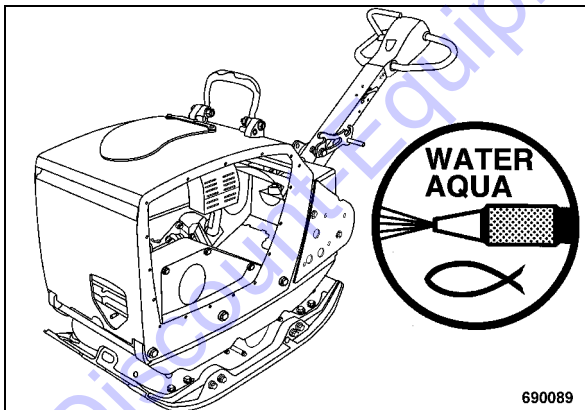

Fig. 39
- Use cold cleansing agent if the engine is soiled with oil and wash it off with a steam cleaner after a sufficient soaking time (Fig. 39).